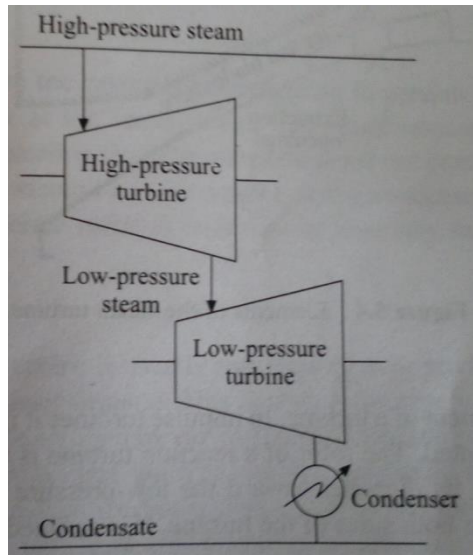

Figure 8 Bottoming Turbine
- Such a turbine is called a “bottoming turbine” as it uses low pressure steam as inlet as shown in figure 8